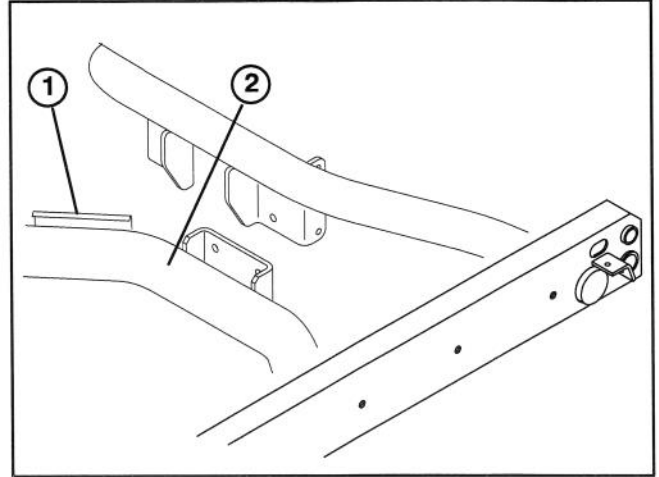

Figure 24
46. Apply warning decal to rear axle tube next to existing decal, just above and to the right of hitch point (Fig. 24).